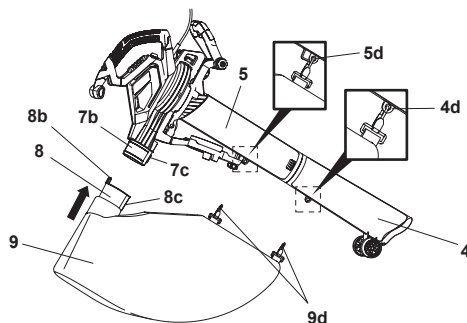

Fig. 6
- Align and insert the tab (8b) of the bag connector into the collection bag port (7b) and insert it as far as it will go. Make sure that the locking button (7c) snaps into the locating hole (8c) (Fig. 6).
- Attach two retaining clips (9d) to the bag hooks (4d/5d) on the lower suction tube (4) and on the upper suction tube (5).